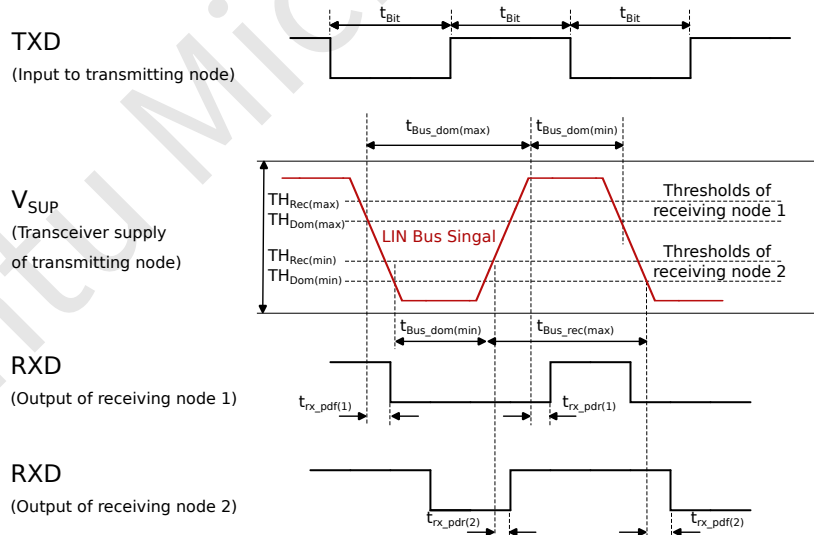

Figure 3: LIN Timing Diagram
2. See Figure3:LIN timing diagram